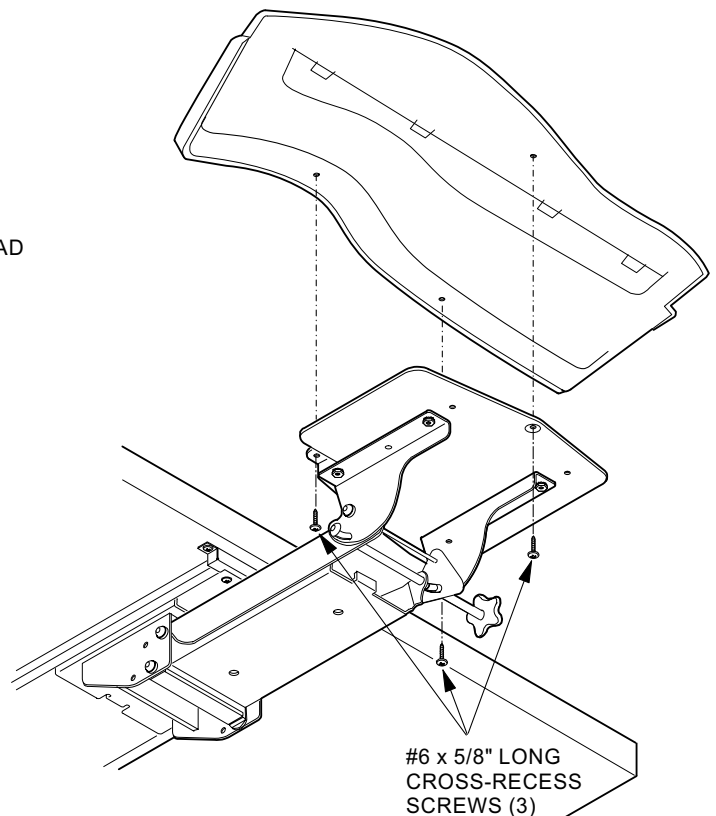

FIG. 4 ATTACH MICROSOFT KEYBOARD TO ADAPTER PLATE
3. Remove three (3) cross-recess screws from holes indicated in underside of Microsoft® keyboard (Fig. 4).
4. Set keyboard on adapter plate, aligning holes. Attach keyboard to adapter plate using three (3) #6 x 5/8" cross-recess screws (Fig. 4).